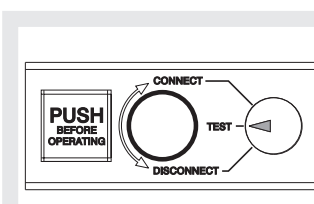

Figure 51
- circuit-breaker in test position (see Figure 51)